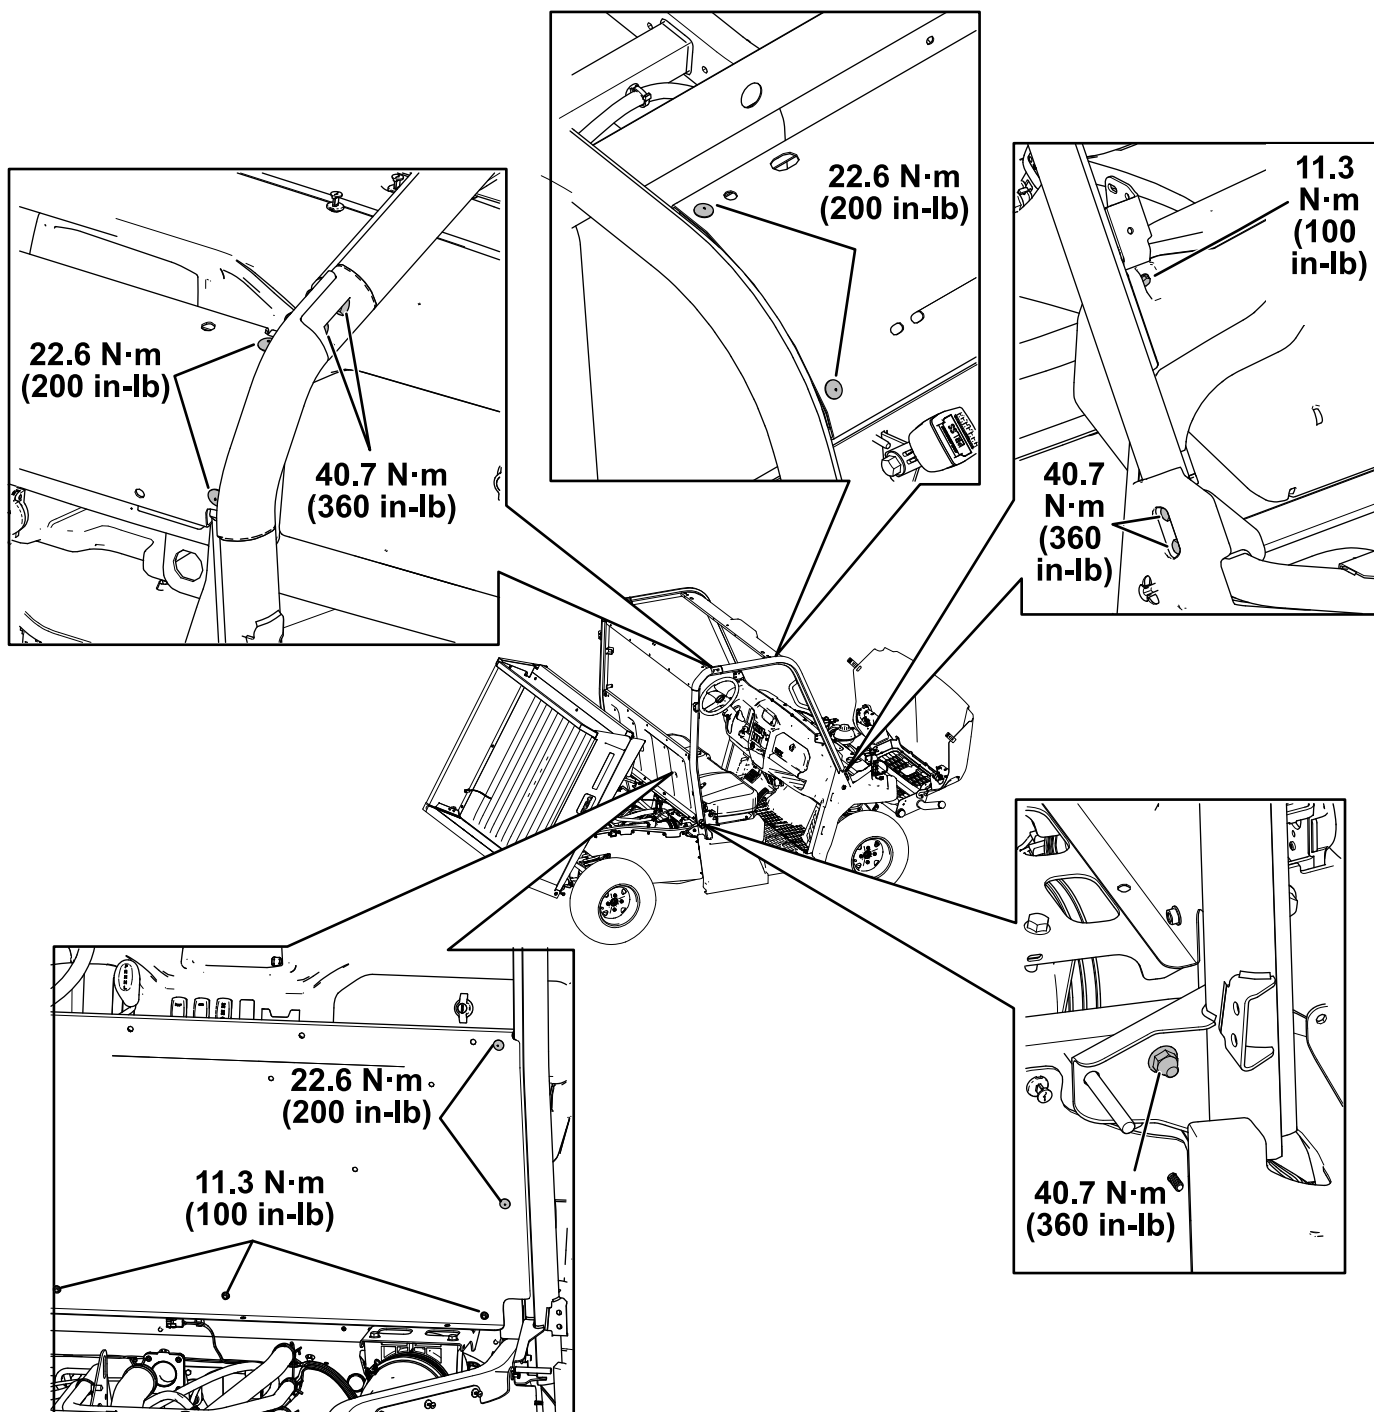

Figure 20
15. Torque the fasteners to the specifications shown in Figure 20.